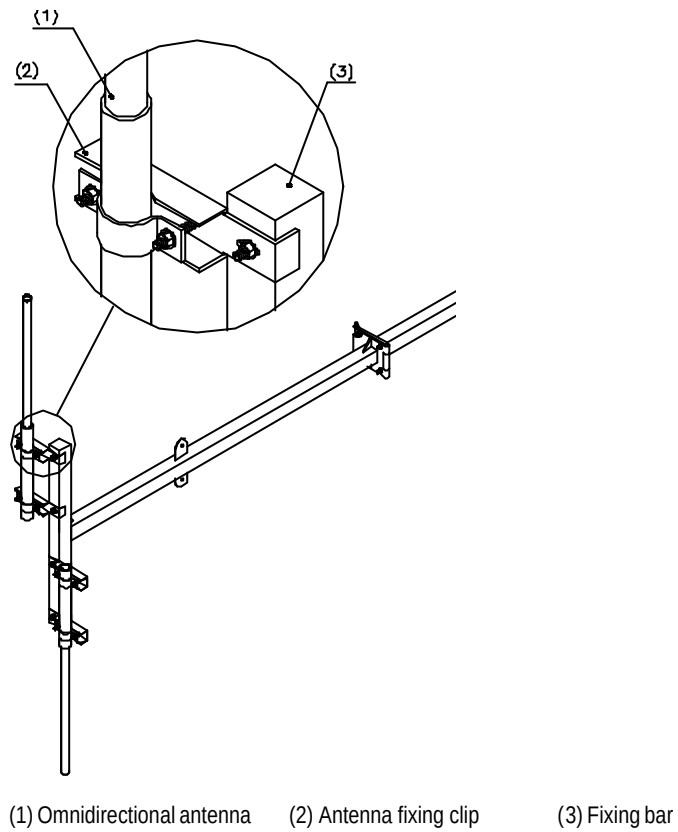

Figure 6-27 Vertical installation of the omnidirectional antennas
- As for the omnidirectional antenna, the transmit antenna and receive antenna can be installed on the same stand as shown in Figure 6-27, or be installed separately. The specific installation location should be determined according to the engineering design drawings;